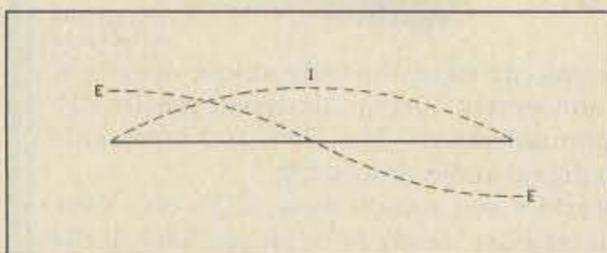

Fig. 1. *Rf voltage and current distribution on a half-wave resonant antenna.*
1. A half-wave resonant antenna (dipole) has high *rf voltage* at its ends and high *rf current* at its center (see Fig. 1).